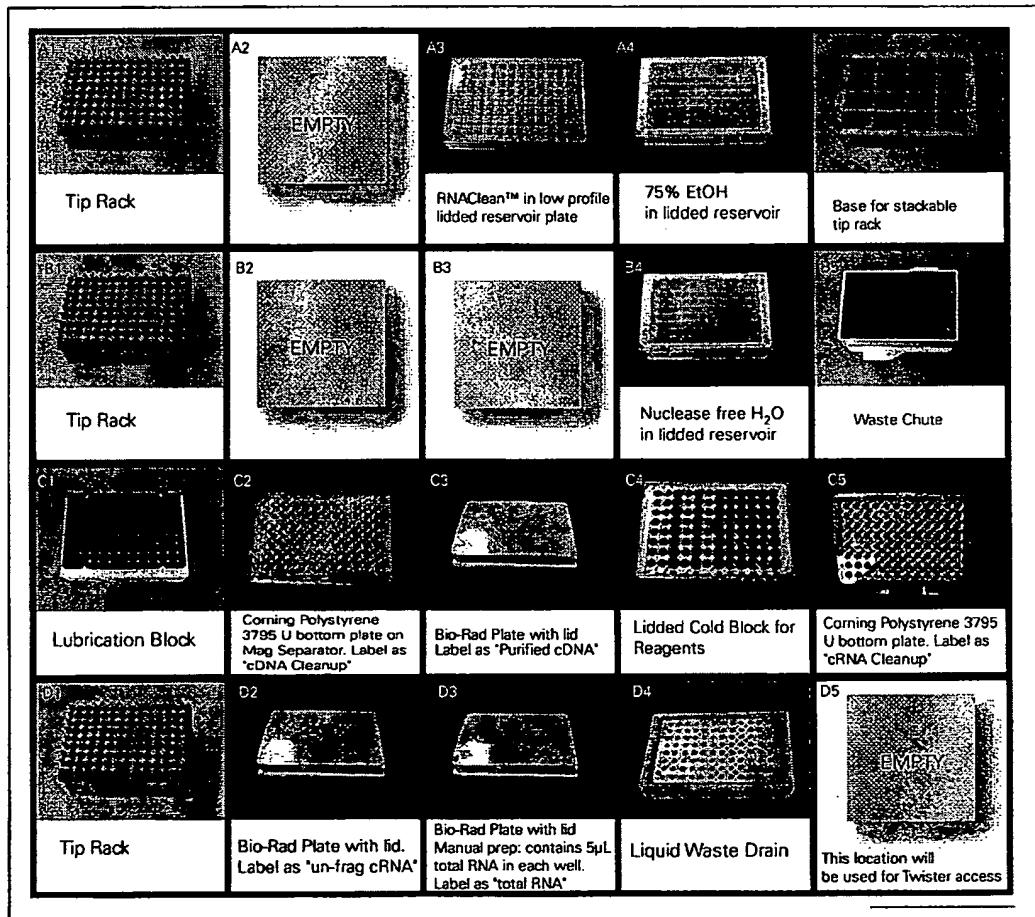

Figure 4.18
1. Set up the deck with the appropriate consumables. Refer to Figure 4.18.